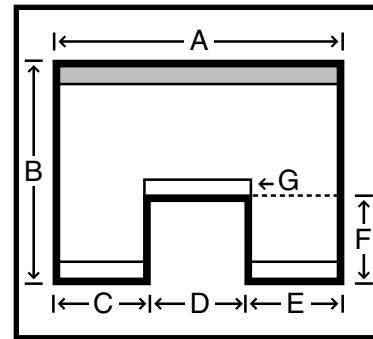

Figure 2 Bottom Cut Out
- Bottom cut out blinds (refer to Figure 2) will have three bottom rails. Blinds will raise from "G" (Figure 2) to head rail.